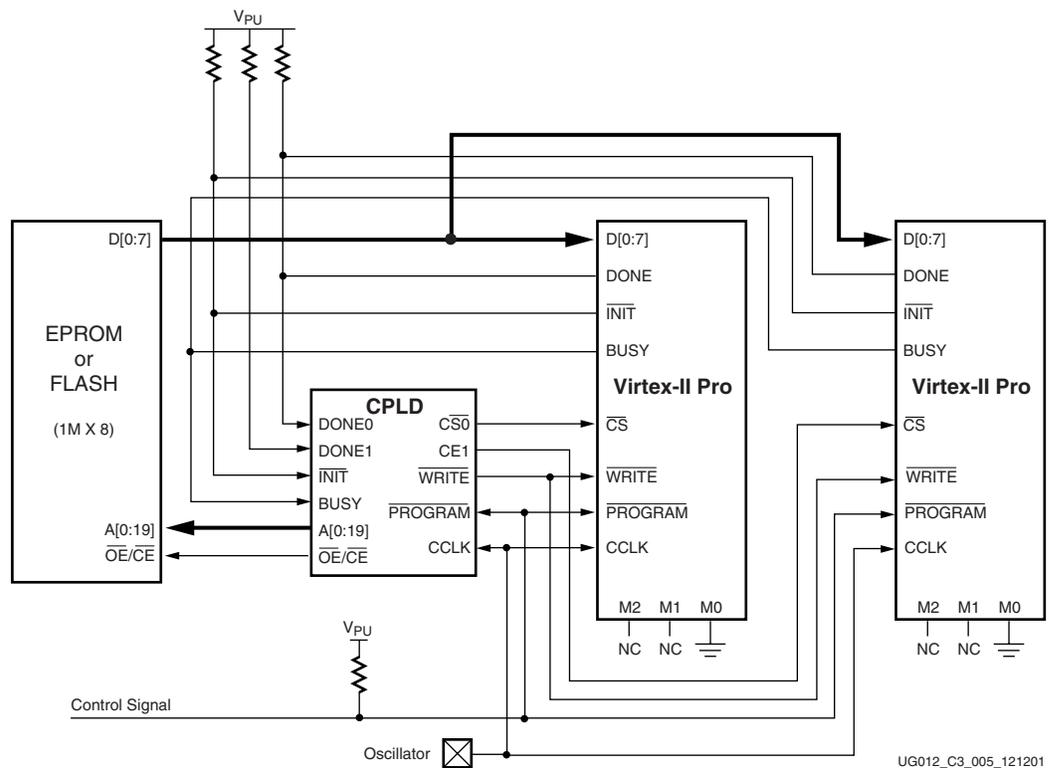

Figure 3-9: Configuring Virtex-II Pro Devices from Parallel EPROMs
- XAPP137: *Configuring Virtex FPGAs From Parallel EPROMs With a CPLD* (www.xilinx.com/apps/xappsumm.htm#xapp137) describes an architecture that configures one or more Virtex-II Pro devices using the Slave SelectMAP mode. See Figure 3-9 for an example of FPGA configuration using a CPLD and a parallel EPROM.